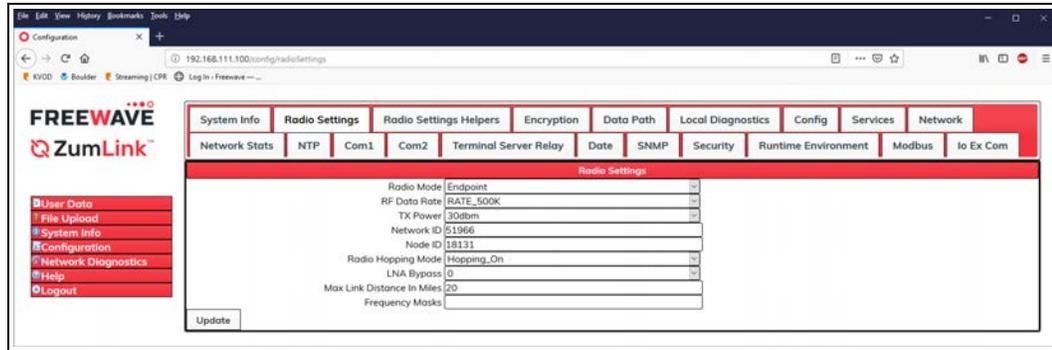

Figure 282: Radio Settings window - Endpoint
6. Click the **Radio Settings** tab to access the **Radio Settings** parameters. Figure 282